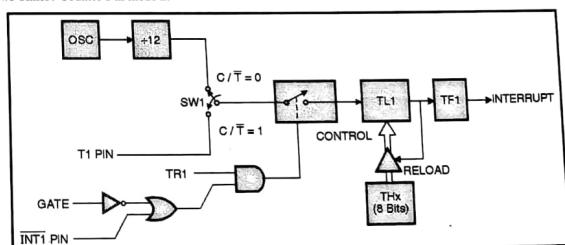

Fig. 3.4.4 : Timer / Counter 1 mode 2 – 8 bit auto reload
- In this mode the Timer / Counter register is configured as an 8 bit counter (TL) with auto reload facility. Fig. 3.4.4 shows Timer / Counter 1 in mode 2.